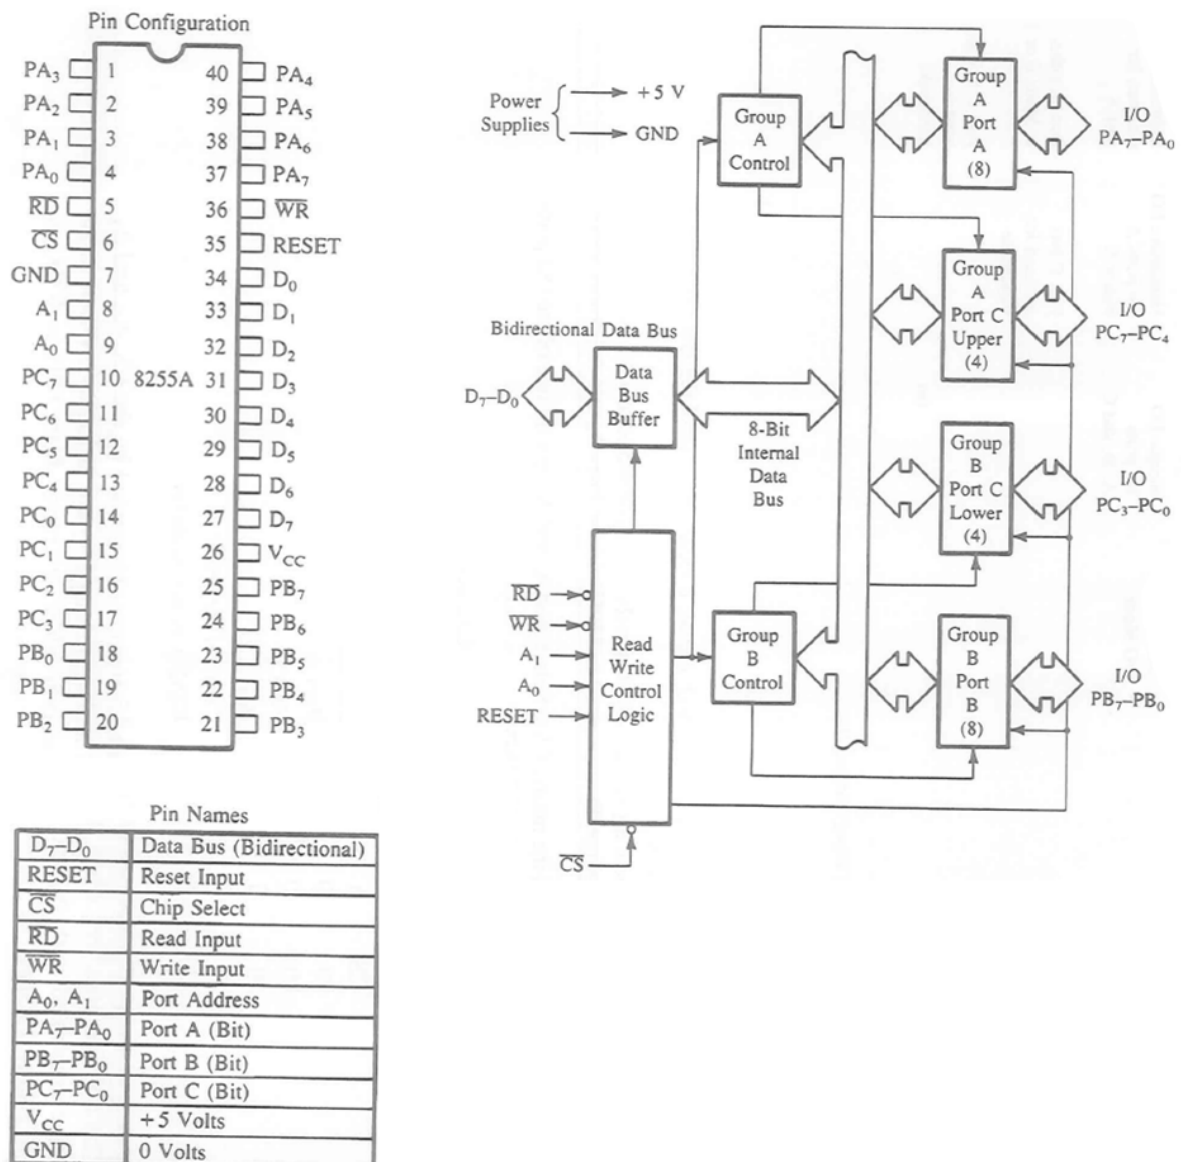

Figure 3.2 8255A Block Diagram
- ❖ The block diagram is shown in figure 3.2 shows 8-bit ports (A and B), two 4-bit ports C_{UPPER} (C_U) and C_{LOWER} (C_L), the data bus buffer, and control logic.